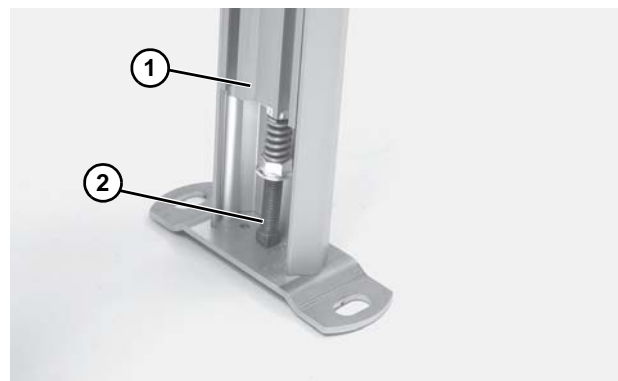

Figure 16
- Raise stand leg (Figure 16, item 1) until it is above fine adjustment bolt assembly (Figure 16, item 2). Insert fine adjustment kit (Figure 16, item 2) into stand leg (Figure 16, item 1).
Failure to secure screws (**Figure 16, item 1**) may cause conveyor sections to drop down causing severe injury.
TIGHTEN SCREWS (Figure 16, item 1) AFTER ADJUSTMENT.
- Tighten stand button screws (**Figure 16, item 1**) to 150 in-lb (17 N-m).